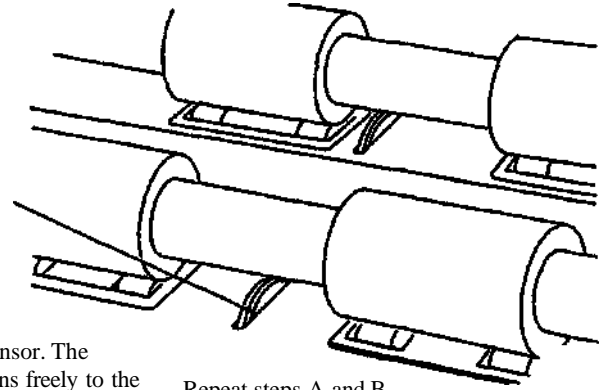

Figure 4. Sensor Arm - Front View
5. (Figure 4): Check that the sensor operates correctly.